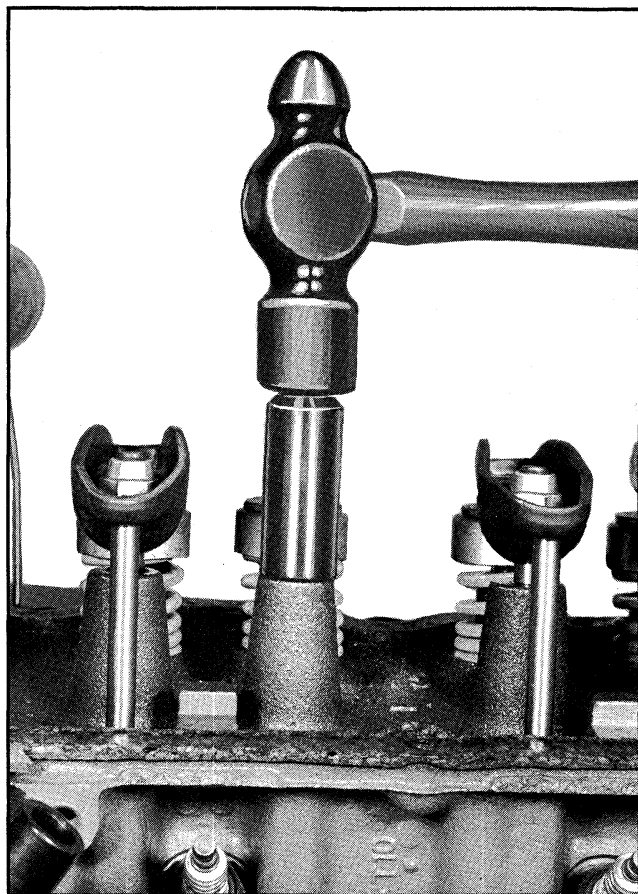

Fig. 6-32 Installing New Rocker Arm Stud
2. Install new stud using tool J-6880. Tool should bottom on head (Fig. 6-32).